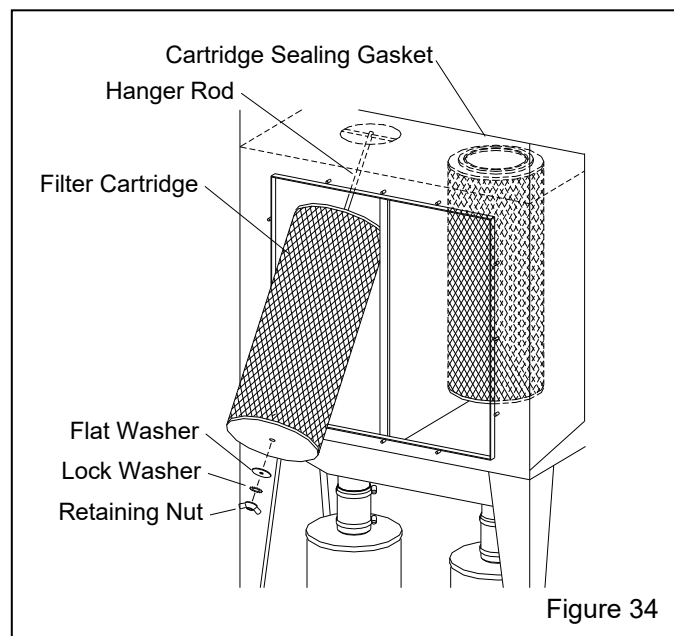

Figure 34
**7.8.7** Loosen the cartridge retaining-nut at the bottom of the hanger rod, as shown in Figure 34, and rock the cartridge to loosen it from the cartridge plate.